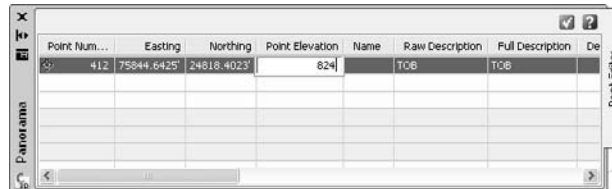

Figure 5.15
4. Click inside the Point Elevation field, and change the point elevation from 823.578' to **824'**, as shown in Figure 5.15. Dismiss the Panorama. Note that the point label has adjusted to match the value entered in Panorama.